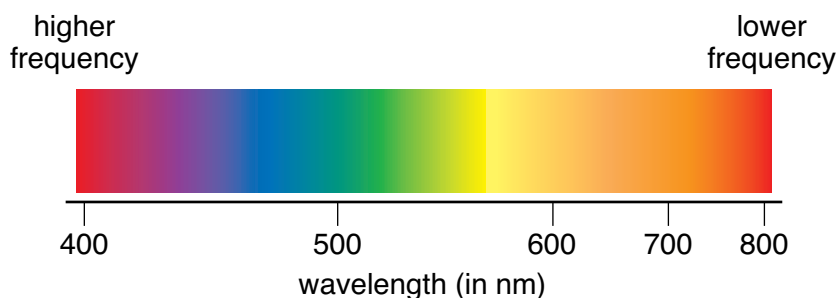

Figure 3
Copper (II) sulfate is a gray compound that turns blue when it is hydrated. Concentrated solutions of CuSO_4 have a darker blue color than dilute solutions. Blue substances appear blue because they reflect blue light but absorb all other colors within the *visible spectrum* (see Figure 3). Blue solutions such as copper (II) sulfate most readily absorb orange light, which ranges from 585 to 620 nm. When analyzed using a spectrophotometer set to a wavelength within this range, the darker solutions absorb more of the light than the pale ones. Since the absorbance was set to 0 percent with pure water, as the concentration of the CuSO_4 increased, the amount of light absorbance increased as well. Impurities in the solution as well as smudges on the cuvettes can cause the readings to be different from those that are expected.